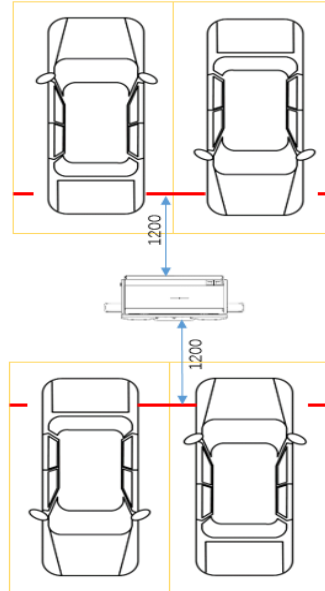

Figure 4 Parking distance requirements
When the charging station is installed in the middle of a parking space or back-to-back parking spaces, it is recommended to leave a space of 1200mm between the car wheel block and the charging station to facilitate the use of the charging pile, as shown in Figure 4:
- (1) Pay attention to the correction level when pouring the foundation.
- (2) The foundation installation is higher than the ground level, and necessary maintenance passages are reserved on site depending on the specific space.
- (3) The drainage outlet on the foundation surface is slightly inclined to avoid water accumulation.
- (4) The foundation is filled with C25 concrete.
- (5) On the basis, reserve a wire outlet hole with a diameter of not less than 200mm, and adjust it according to the actual wire diameter. As shown in Figure 4.
- (6) After the foundation is completed, use a level to test the flatness.
- (7) Six M12 screw rods are used for fixed pre-embedding, which are pre-embedded into the interior of the concrete foundation according to the positioning of the drawing, and 30-40mm threads on the upper surface of the concrete foundation are exposed.